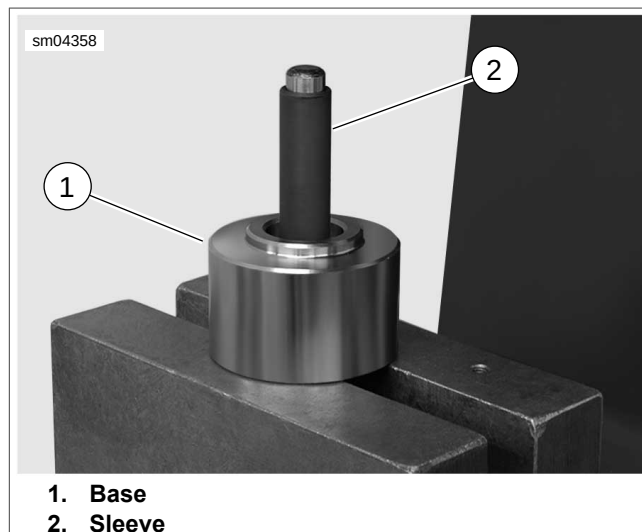
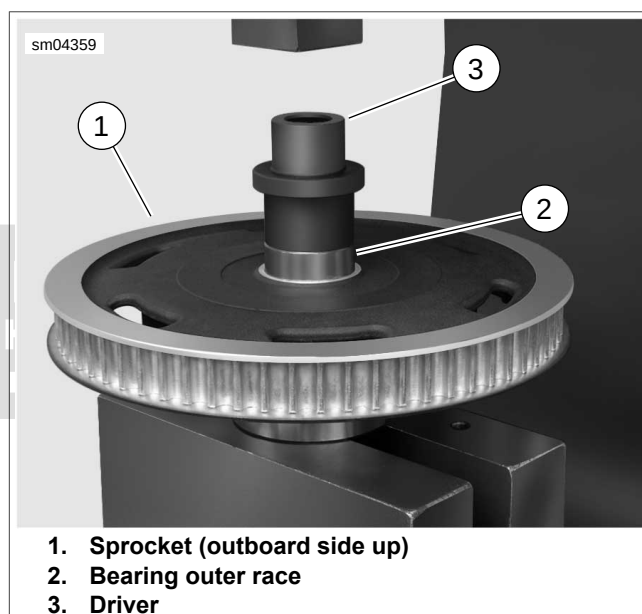

Figure C-5. Position Tool for Bearing Installation
Figure C-6. Install Compensator Sprocket Bearing
2. See Figure C-5. Position base (1) on deck of arbor press with the small OD topside.
3. Slide sleeve (2) over base pin.
5. See Figure C-6. With the outboard side facing up, slide sprocket (1) over sleeve until it rests on base.
6. Slide bearing (2) over sleeve.
7. Slide large OD of driver (3) over sleeve until contact is made with outer race of bearing.